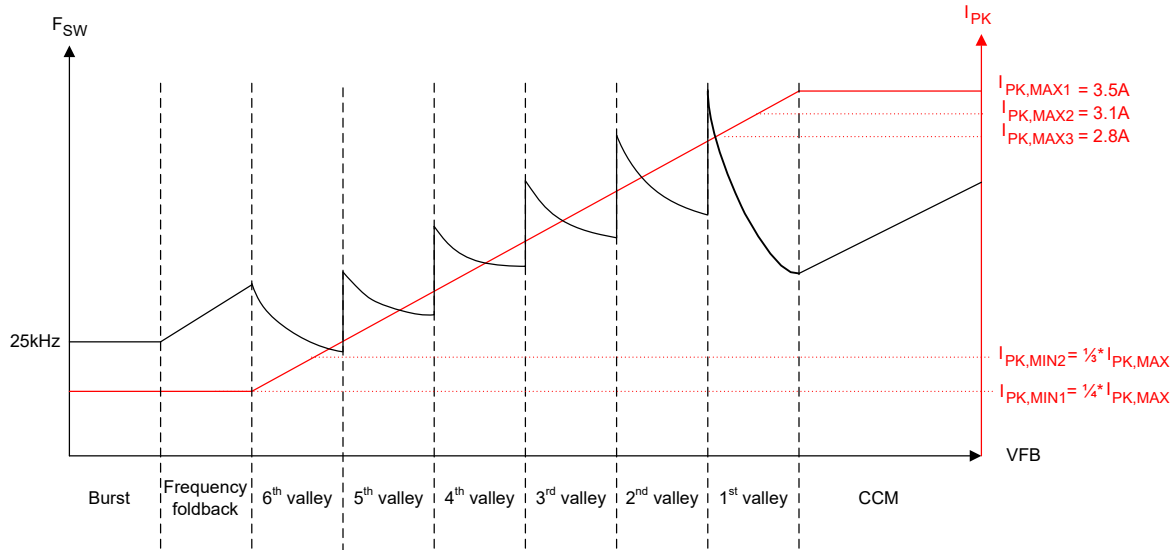
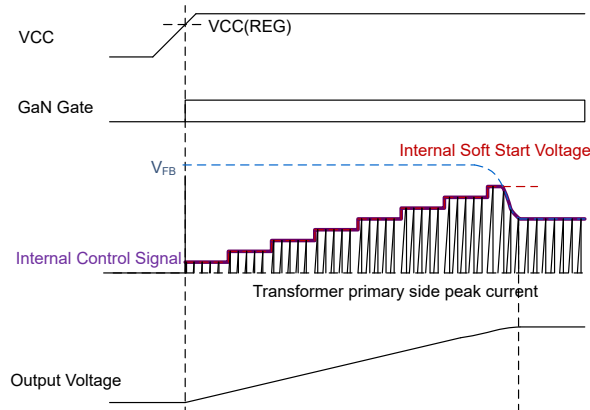

Figure 7-3. UCG2882x Control Law
Figure 7-8. Soft Start Sequence
Hence, in UCG2882x, in every switching cycle, the primary GaN HEMT turns off after reaching the peak current threshold and turns on next at a target valley in magnetizing ring during discontinuous mode (DCM) operation. The instantaneous primary peak current and target valley is determined by the feedback (FB) pin voltage as per the control law of Figure 7-3. Connect the FB pin to the optocoupler collector. The negative feedback loop sets FB pin voltage to the required value to support a certain V_{OUT} and P_{OUT} on the output. The device can operate in one of the four modes of operation: burst, frequency foldback, valley switching or continuous conduction mode, as described later.
In the control law shown in Figure 7-3, the UCG2882x offers flexibility to select a max peak current $I_{PK,MAX}$ to optimize for the switching frequency at rated load and transformer size. For each $I_{PK,MAX}$ setting, a scaling ratio of 1/3rd or 1/4th is available for the minimum peak current $I_{PK,MIN}$. This $I_{PK,MIN}$ value determines the switching frequency and losses in light load conditions when the flyback converter is operating in frequency foldback or burst modes. For all values of $I_{PK,MAX}$ and $I_{PK,MIN}$, the slope of control law peak current vs feedback voltage remains the same, as per Equation 1. Table 7-6 shows the threshold voltages for transition between different modes and between valleys for different peak current settings of Table 7-3.
The UCG2882x is designed to operate with soft switching and primary FET turn-on at a valley to reduce switching losses. The converter operates in valley switching except during peak load transients during which control can transition to CCM mode (if enabled using CDX pin). During valley switching mode, the target valley and peak current threshold are governed by the control law of Figure 7-3 and Equation 1:
As shown in Figure 7-3, once the boundary of 1st valley QR operation is reached with increasing output power, the control clamps I_{PK} to the maximum selected value $I_{PK,MAX}$, and begins to reduce the secondary conduction time T_{OFF} in CCM mode. This reduction in T_{OFF} is proportional to increase in FB pin voltage, until 50% of the QR mode off-time to reach maximum 1.5 $\times$ the QR mode output power delivery capability. Use a primary magnetizing inductance L_M large enough to not hit the frequency clamp during CCM mode and avoid any subharmonic oscillations which can increase output voltage ripple, depending on application requirements. For long duration output power transients, the converter returns to 1st valley QR mode after expiry of the 10ms CCM timer and continues to deliver the largest possible output power at the transition point of QR and CCM modes, while operating in QR mode. The device offers flexibility to enable or disable CCM mode operation with a resistor from the CDX pin to GND, as per values in Table 7-5.
When turned on, a flyback converter starts with 0V output voltage. The low voltage can cause the feedback voltage FB to clamp the maximum value and trigger overload protections. To prevent the clamping from happening, the UCG2882x starts in soft start mode. As Figure 7-8 shows, during this time, an internal FB voltage ramp increases in eight steps from 0V to its maximum value in 4ms. The maximum value of internal FB ramp at FB pin voltage is equivalent to 80% of the $I_{PK,MAX}$ setting and changes for different resistor settings on the IPK pin. During soft start, the smaller of internal ramp voltage and actual FB pin voltage is used to determine the device operating point in the control law of Figure 7-3. Once the internal FB ramp voltage reaches the maximum value at the end of 4ms is when control is transferred to FB pin voltage for output regulation. Soft start sequence is executed every time at start up or when recovering from fault (auto-retry or latch) and brown-out conditions. The minimum frequency clamp is changed to 10kHz only during soft start (which is otherwise at 25kHz during normal operation). The 10kHz minimum frequency clamp helps at start-up when valleys are missing and the control law forces turn-on of primary GaN HEMT every 100μs from the last turn-on edge (if valleys are missing), to charge the output capacitor.